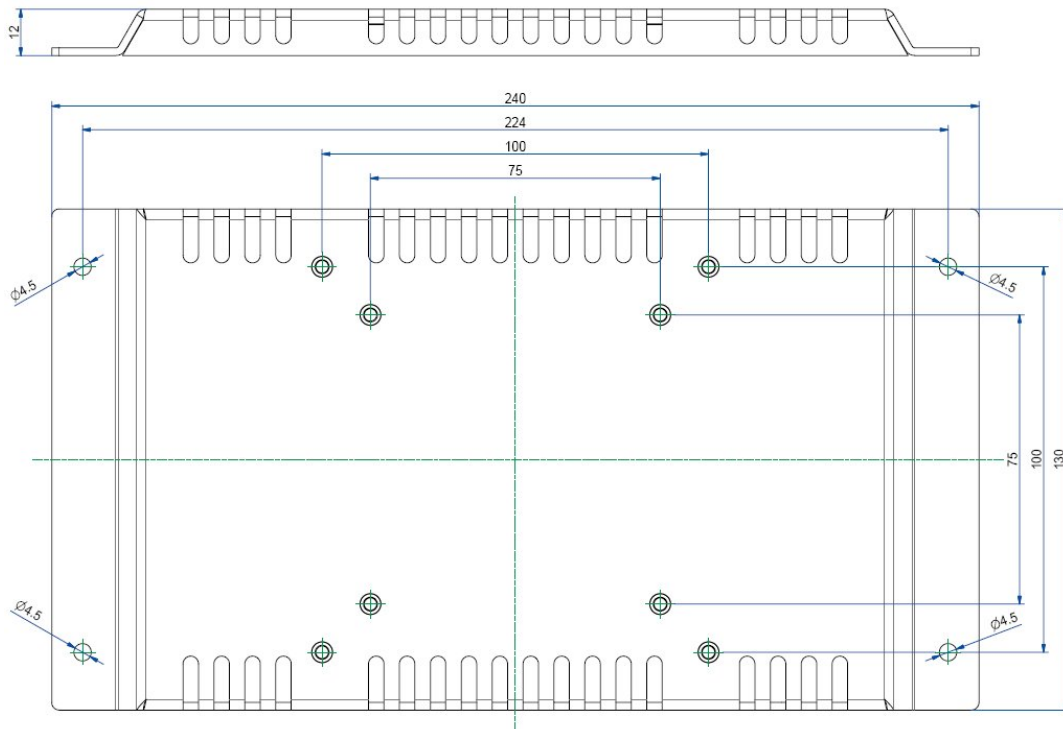

Fig. 32: Rear and bottom view of the mounting plate VESA® 75/100 for M@CII 104/121/150)
- ❑ M@CII 104/121/150 is VESA® 75/100 compliant (refer to Fig. 32).